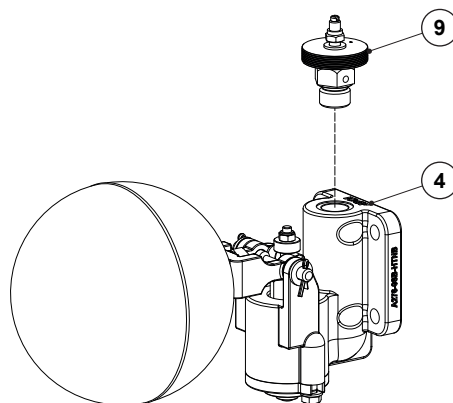

Fig. 6
1. Undo the bolts (10) gradually in a crisscross pattern and separate the cover (2) from the body (1).
2. Remove the body gasket (3), unscrew bolts (4A), remove gasket (5) and mechanism assembly (4, 6, 7, 8, 9).
4. Clean body (1) and cover (2) surfaces thoroughly, leaving no remaining graphite leftovers.
5. If only the automatic air vent (9) needs replacing, secure the seat (4) tightly in a vise with soft jaws (secure by the seat body and not the seat nut) and unscrew the automatic air vent (9) – see Fig. 6.
7. Apply a suitable silicone sealant to the thread of the new automatic air vent (9), and tighten with the recommended torque – see section 9.6 – Tightening torques.
8. Fit a new gasket (5) and place the mechanism assembly (4, 6, 7, 8, 9) on the body (1) with the automatic air vent (9) pointing upwards.
9. Secure the seat (4) by tightening the bolts (4A) with the recommended torque – see section 9.6 – Tightening torques.